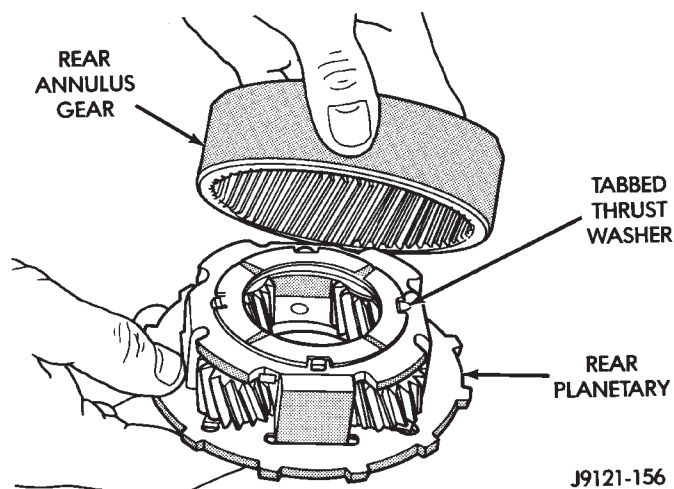

Fig. 70 Assembling Rear Annulus And Planetary Gear
(1) Lubricate intermediate shaft and planetary components with transmission fluid. Use petroleum jelly to lubricate and hold thrust washers and plates in position.
(2) Assemble rear annulus gear and support if disassembled. Be sure support snap ring is seated and that shoulder side of support faces rearward.
(3) Install rear thrust washer on rear planetary gear (Fig. 70). Use enough petroleum jelly to hold washer in place. Also be sure washer tabs are properly engaged in gear slots.
(4) Install rear annulus over and onto rear planetary gear (Fig. 70).